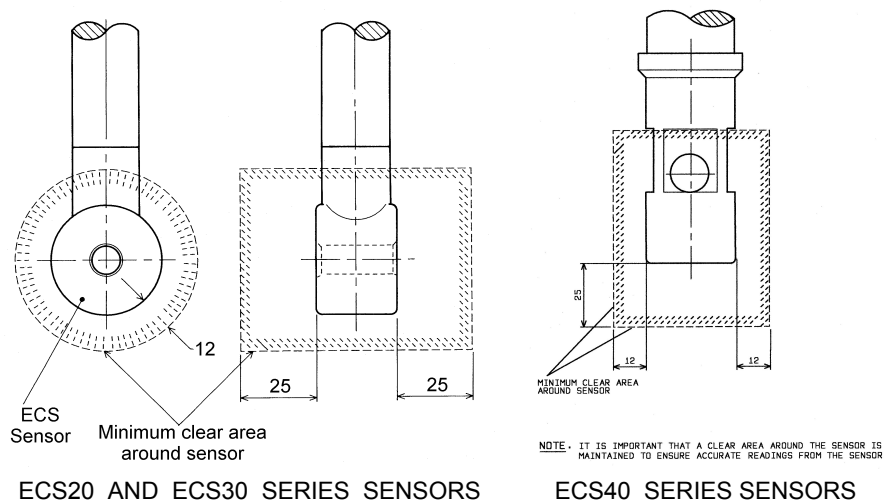

Figure 24
- ◆ The electrodeless sensor will need a minimum clearance around it when installed or making measurements in a sample. Do not rest it on the bottom of a tank or vessel. See Figure 24 for details.